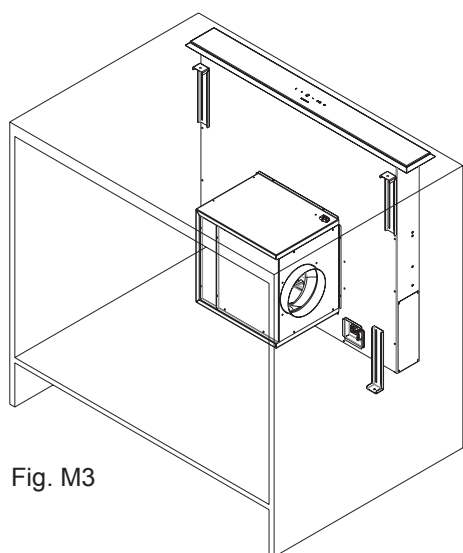

Fig. M3
- You can connect the exhaust air from all directions to the hood (Fig. M3). For such purpose you can screw the motor module after the installation of the hood housing accordingly. For an air outlet to the front, the angle plate has to be unscrewed with the round vent connection and the engine below it, then rotated and screwed again.
Fasten the motor module to the hood body (Fig. M3) . Pay attention to the blowing direction of the motor.